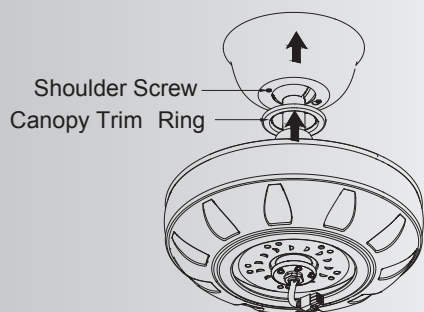

Fig. 15
Step 3. Securely attach and tighten the canopy trim ring over the shoulder screws in the mounting bracket utilizing the keyslot twist-lock feature. (Fig. 15)